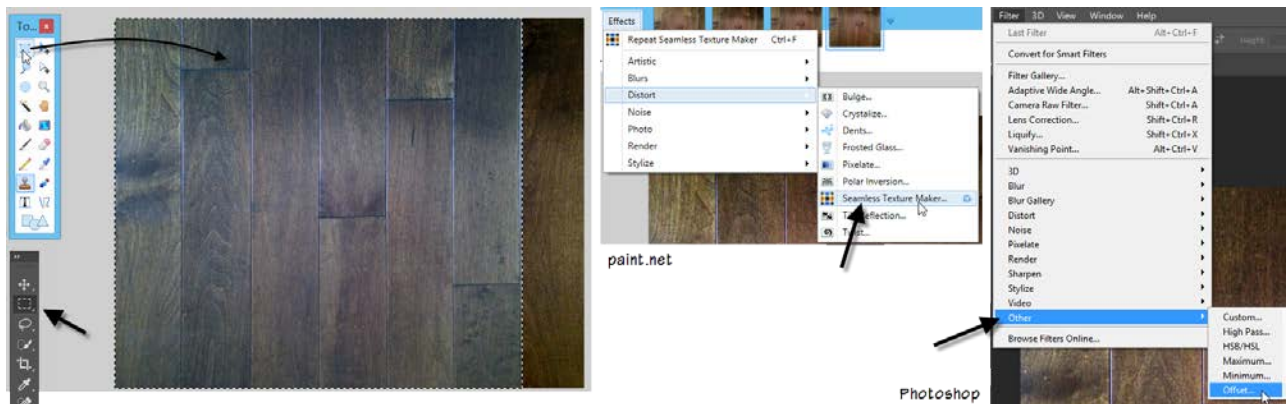

Figure 22—Crop the image and then run the Seamless Texture Maker plug-in
⇒ From the Image menu, choose: **Crop**. (**Crop to Selection** in paint.net). (See the left side of Figure 22).
**In paint.net:** from the Effects menu, choose: **Distort > Seamless Texture Maker** (see Figure 22).
**In paint.net:** in the “Seamless Texture Maker” dialog, choose the: **Only cut** option from the menu. For axis of symmetry, choose **Horizontal** and make sure Flip the selection is set to No (see Figure 22).
**In paint.net:** from the Effects menu, choose: **Distort > Seamless Texture Maker** (shown in Figure 22 above).